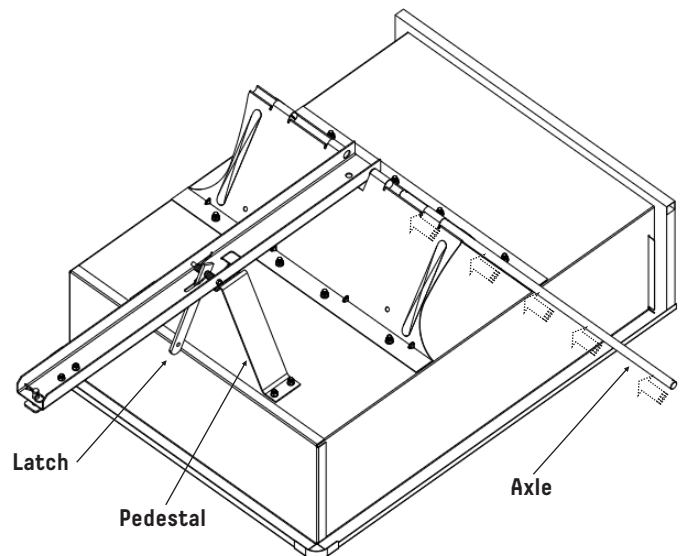

Figure 3.
3. Move Body to flat position with Undercarriage and Pedestal face up. Slide Axle halfway through Undercarriage. Place Tow Bar into centre slot on Undercarriage, locking latch to Pedestal, then slide the Axle through the holes in the Tow Bar all the way through the Undercarriage. See Figure 3.